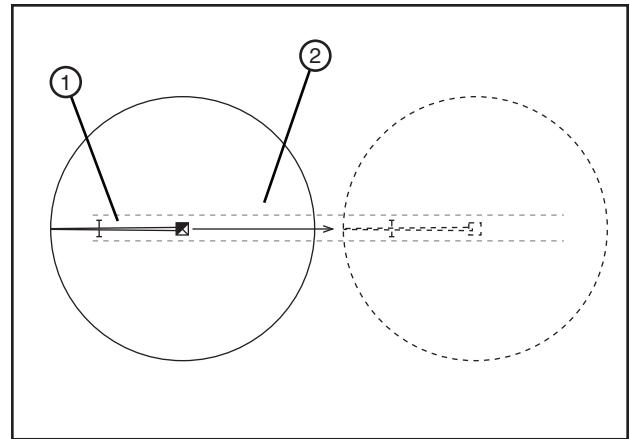

Figure 55-1 1. Machine
1. Position the machine in the tow lane. When positioning the center pivot, always use the "STOP" button on the control panel to stop the center pivot. NEVER stop the center pivot with the control panel or service disconnect switches. See figure 55-1.